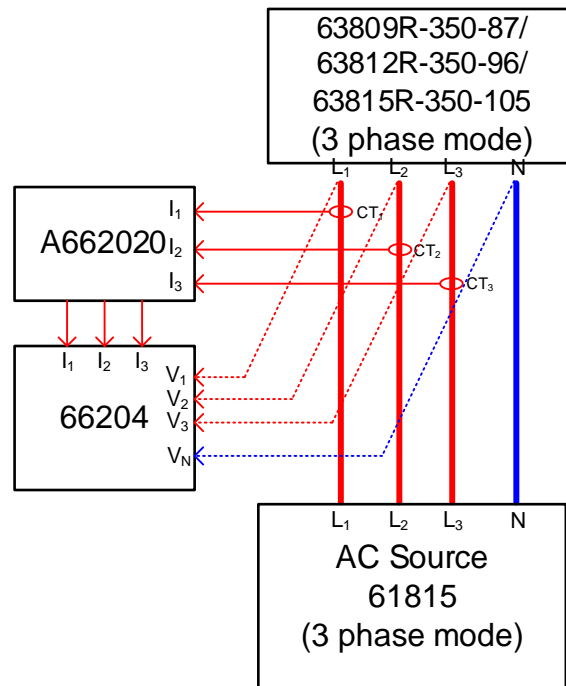

Figure 3-5
Connect the Regenerative AC Electronic Load, AC Source, Power Meter, and Current Transducer as shown in Figure 3-5.
- Connect the Regenerative AC Electronic Load, AC Source, Power Meter, and Current Transducer as shown in Figure 3-5. Use the Power Meter to measure the AC Iac current.
- Connect the Regenerative AC Electronic Load, AC Source, Power Meter, and Current Transducer as shown in *Figure 3-5*. Use the Power Meter to measure the apparent power S.